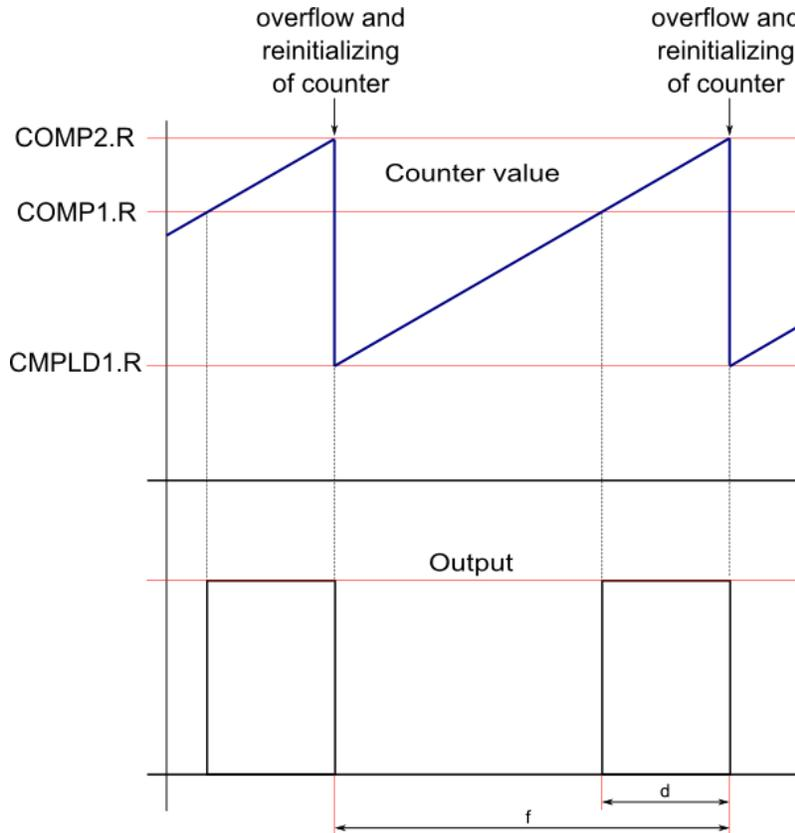

Figure 4. Generating periodical signal waveforms
*Implementation:* The COMP1 register is used for driving the duty cycle, the CMPLD1 register is used for driving the frequency of the signal. Figure 4 shows this. The output signal is set on a successful compare of COMP1 and cleared on successful compare of COMP2.